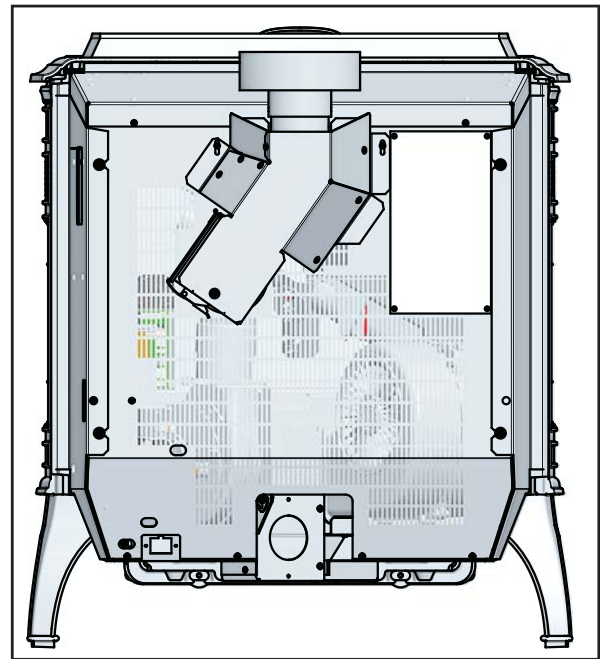

Figure 18.2
3. Align slot on left of adapter with hole in the back of the unit and secure with screw. You may drill out the hole using #26 drill bit provided but only if needed. **Figure 18.2.**
7. To clean top vent adapter, open clean-out cover and remove any debris build-up. **Figure 18.2.**